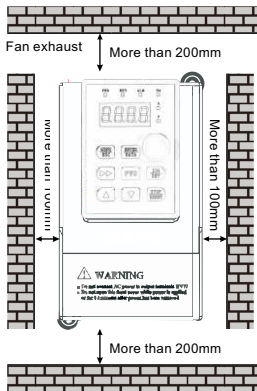

Figure 3-1 Mounting space and distance
- For the requirements on mounting space and distance, refer to Fig.3-1.